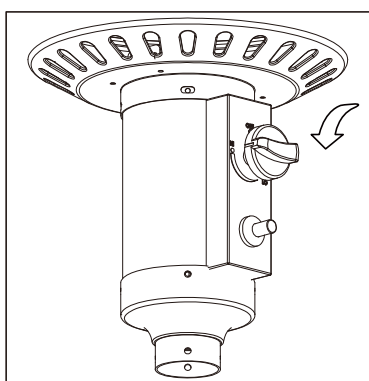

Figure 1
2. Press and turn the control knob to HI (maximum) position (counter-clockwise 90°). (Figure 1)